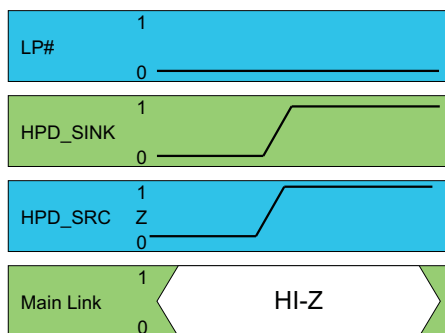

**Figure 16.**
- **Case one:** In this case HPD\_SINK is initially LOW and the low power pin is also LOW. In this initial state the device is in a low power mode. Once the HPD input goes to a HIGH state the device will remain in the low power mode with both the main link and auxiliary I/O in a high impedance state. Refer Figure 16. However the HPD\_SRC signal is not gated by the LP# pin. HPD\_SRC will follow HPD\_SINK after the propagation delay  $t_{PD(HPD)}$ .